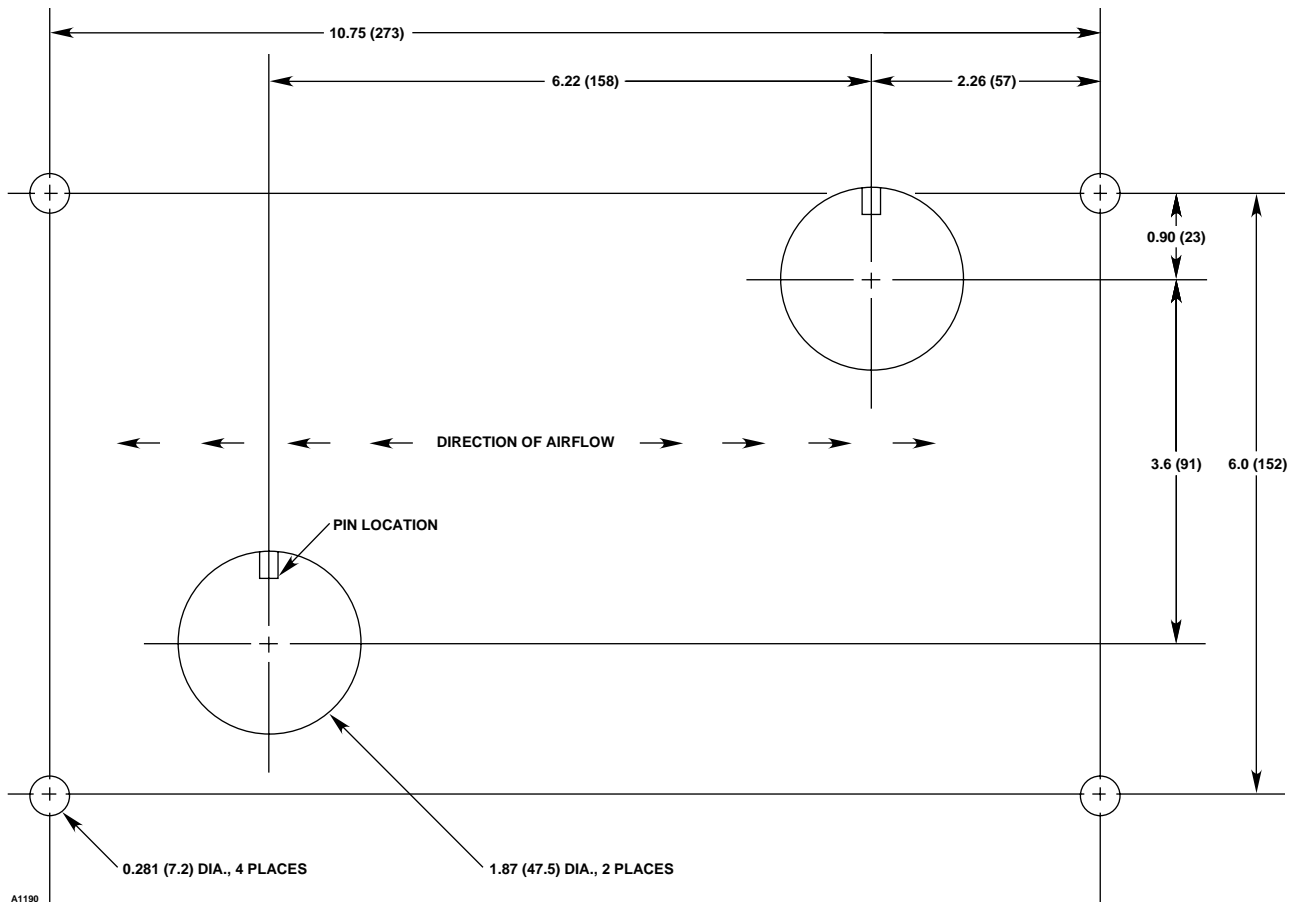

Figure 2—Mounting Hole Dimensions in Inches (MM)
2. Mark and drill the appropriate mounting and sampling tube holes on the duct wall. Refer to Figure 2 to determine the size and location of the holes.